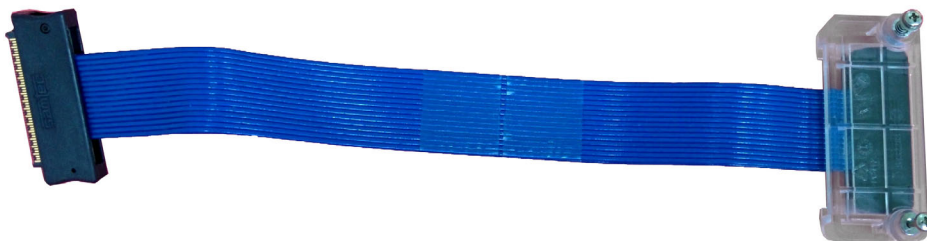

Figure 8-133 HDR Flex Cable
- 5.) Remove the HDR flex cable - see Figure 8-133 below.